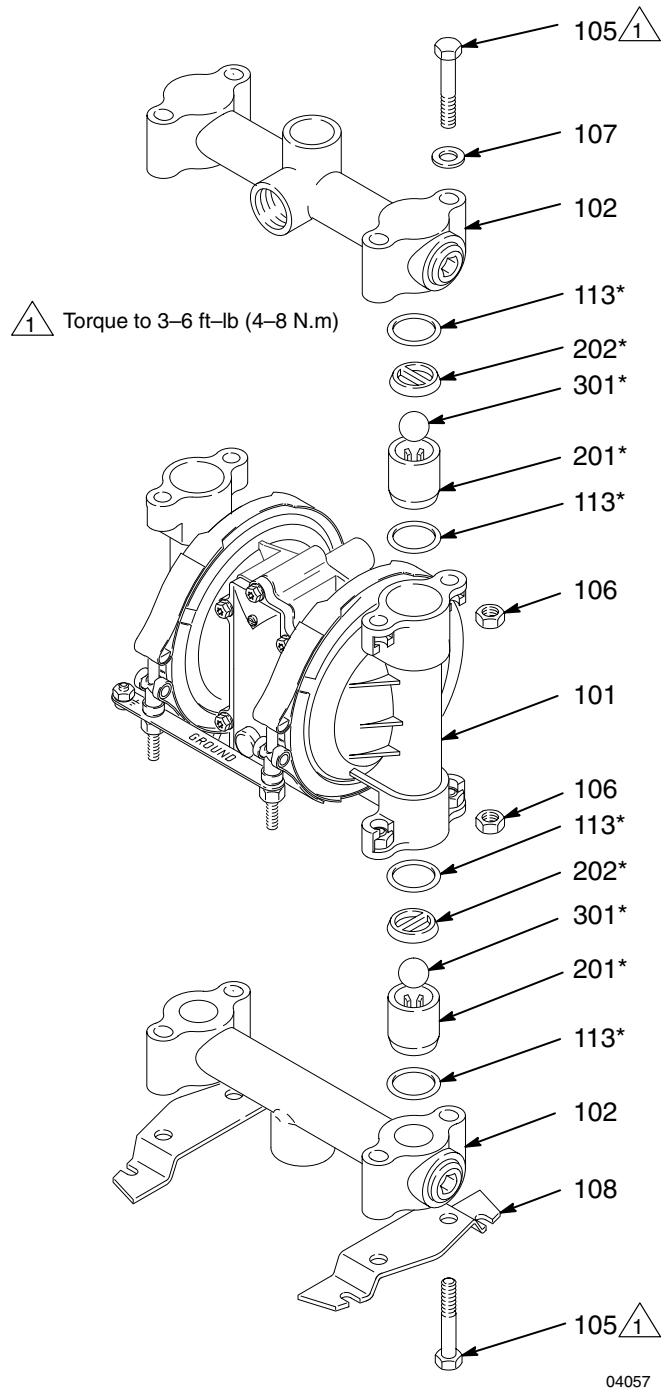

Fig. 16
3. Unscrew the four bolts (105), washers (107), and nuts (106) holding the top manifold (102) to the covers (101). Lift the manifold off the pump. See Fig. 16.
4. Remove the outer o-ring (113), ball stop (202), ball (301), ball guide (201), and inner o-ring (113) from each of the covers (101).
5. Turn the pump over. Remove the bolts (105), nuts (106), feet (108), and bottom manifold (102).
6. Remove the outer o-ring (113), ball guide (201), ball (301), ball stop (202), and inner o-ring (113) from each of the covers (101).
8. Reassemble. Follow all notes in Fig. 16. Be sure the ball checks are assembled **exactly** as shown.